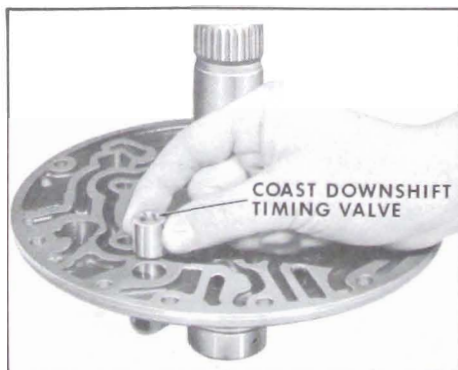

Figure 5-205
7. Install coast down shift timing valve "button end" up in cover. See Figure 5-205.